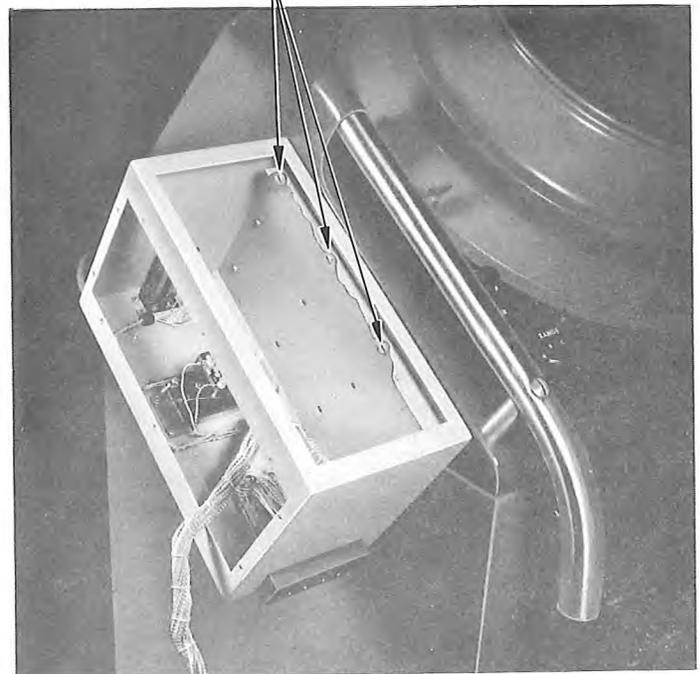

Fig. 23 – Console, Azimuth Range, Auxiliary Key Assembly Fastening Arrangement
Console, Azimuth Range (Fig. 23, 24, 25, 26)
8.01 Auxiliary key assembly must be fastened to top portion of console only, so that console may be opened (see Fig. 23).